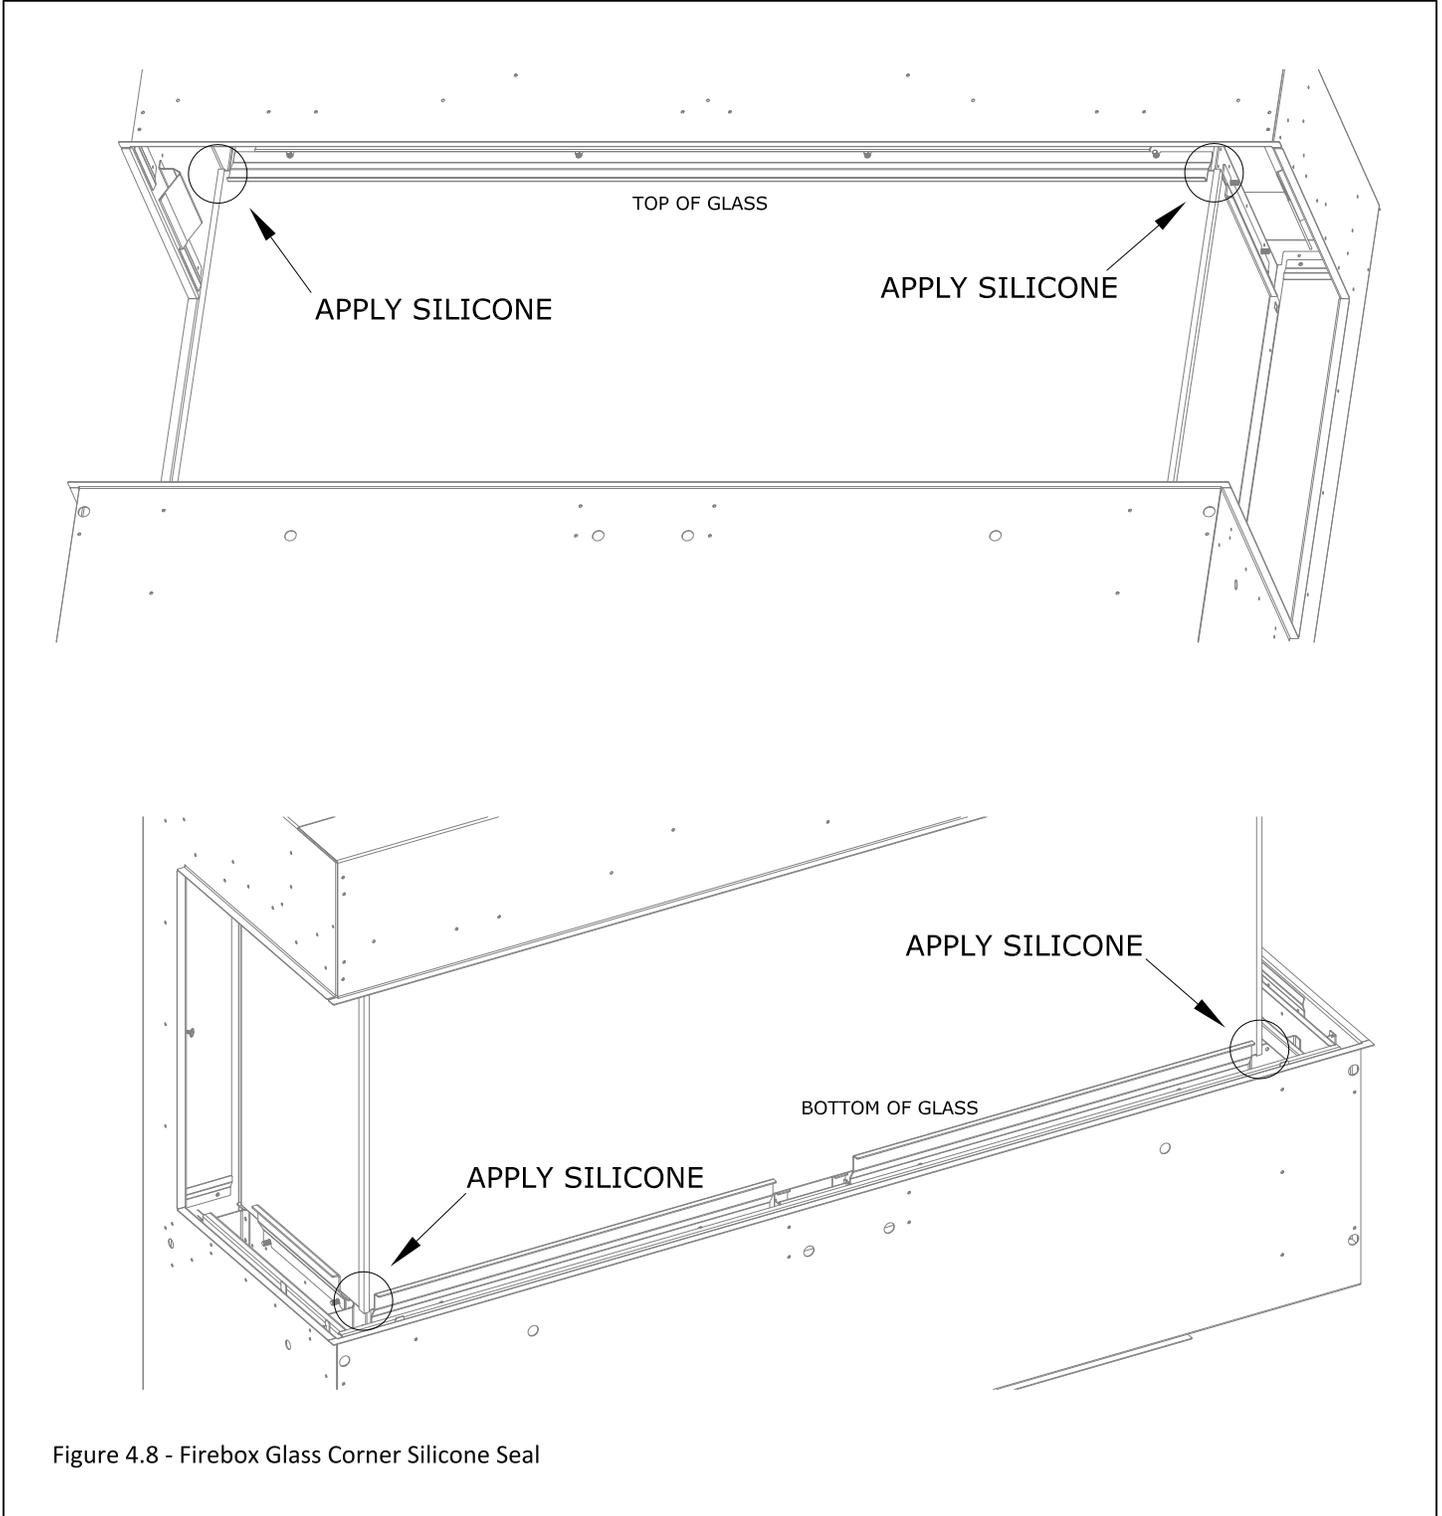

Figure 4.8 - Firebox Glass Corner Silicone Seal
5. Apply high temperature silicone to the top and bottom corners of where the front and side firebox glass pieces meet. See Figure 4.8.